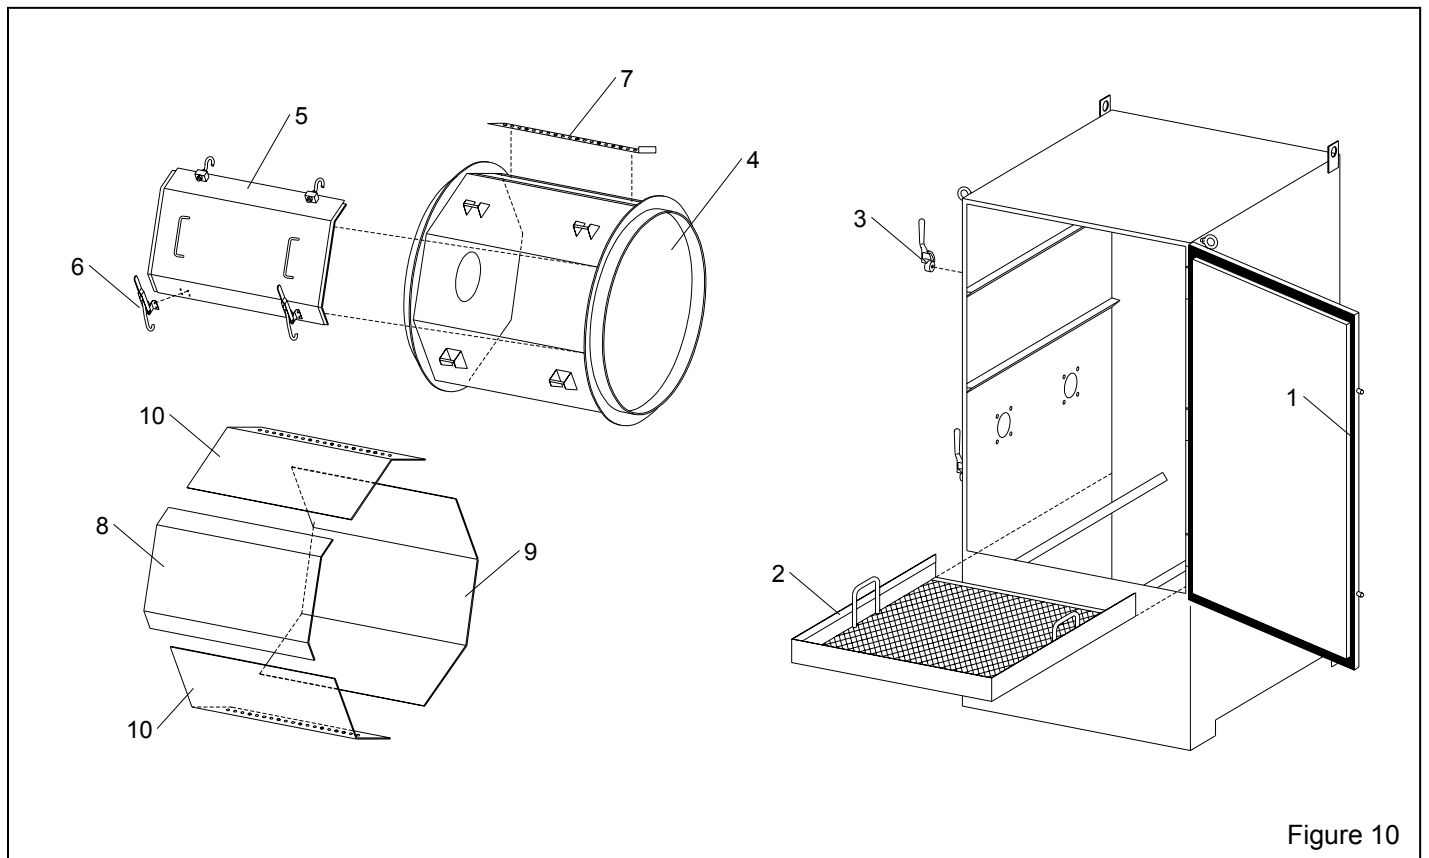

Figure 10
9.3 Cabinet and Drum Assembly, Figure 10